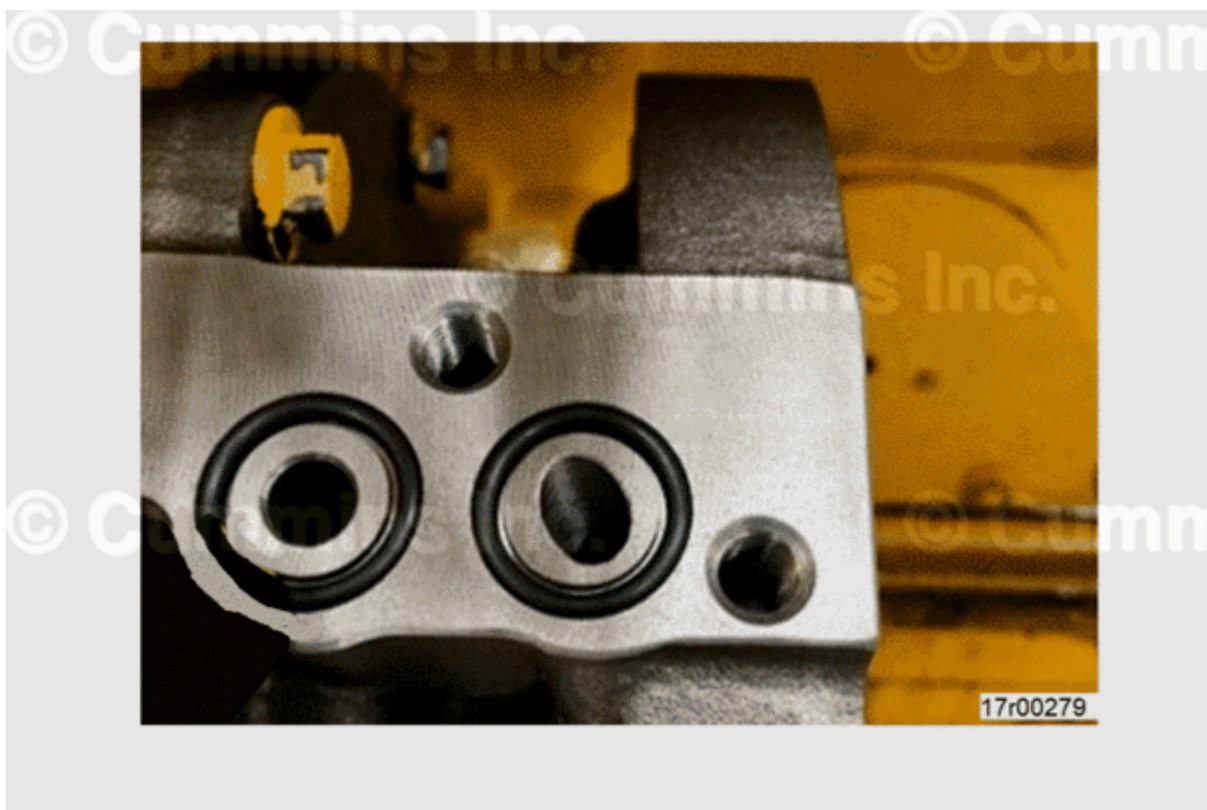

Figure 11, O-ring Ports.
1. Install o-rings in accessory drive support. See Figure 11 above.